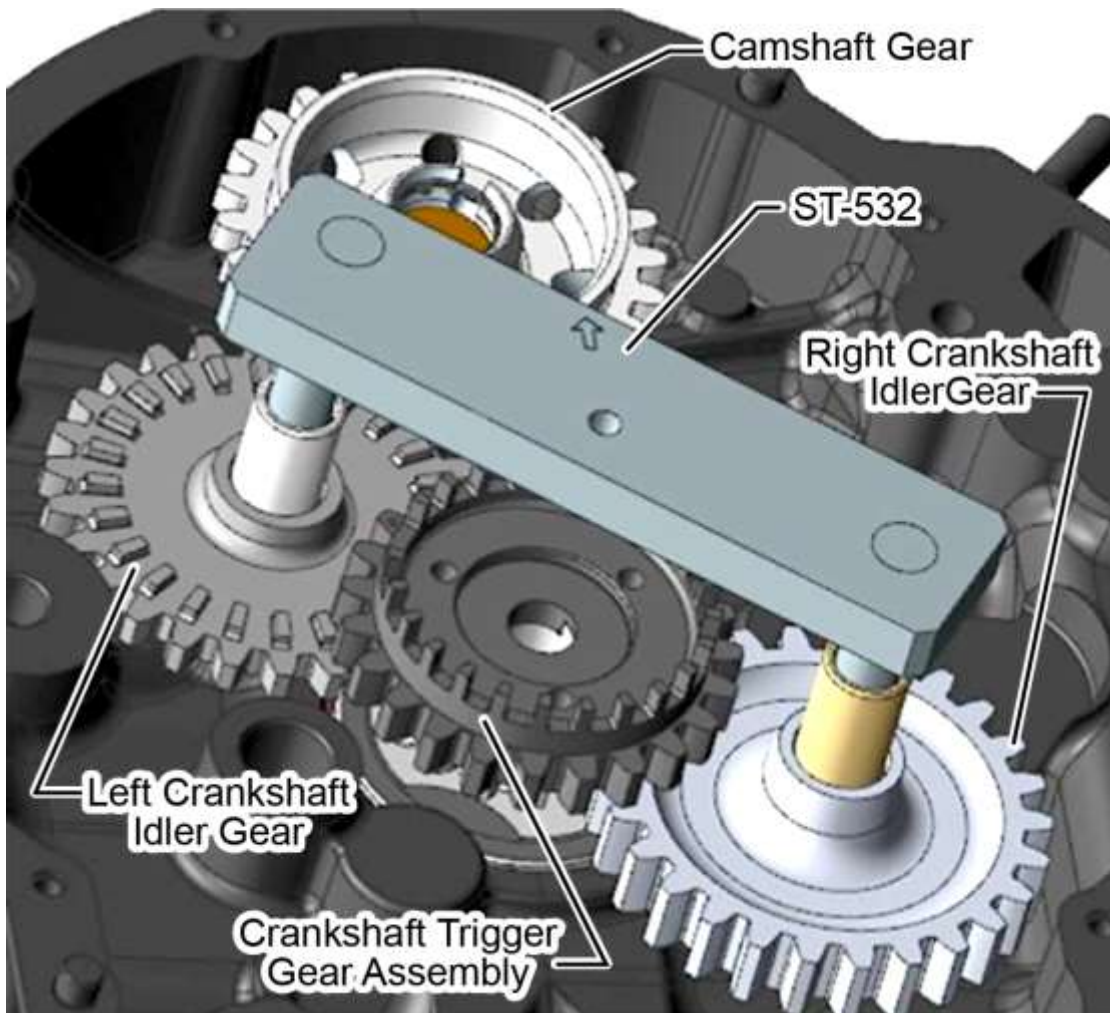

Figure 102
C. Assemble the left crankshaft idler gear, right crankshaft idler gear, and crankshaft trigger gear assembly with the timing marks on the crankshaft trigger gear assembly and left crankshaft idler gear aligned on the Idler Gear Assembly Aid (ST-532) and install the gears on the crankcase (Figure 102).